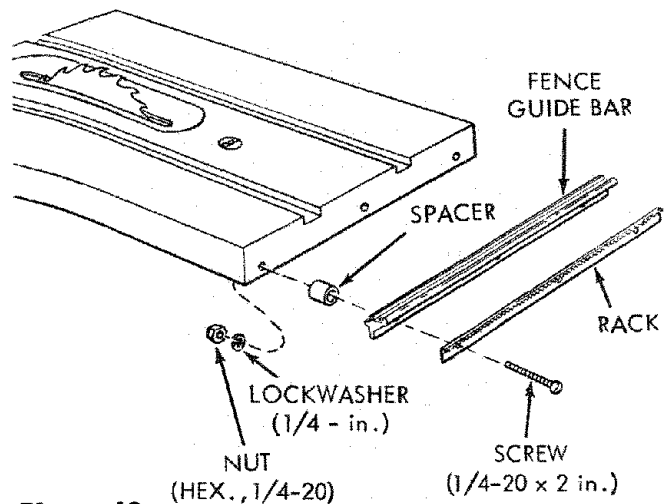

Figure 19
- (2) Shift the two trunnions by tapping them lightly until the two measurements described in the preceding instructions are equal. Tighten the trunnion screws and recheck measurements to make sure tightening screws did not alter the setting. Several trials may be required to produce an accurate setting.
- a. Position the table rack against lower edge of fence guide bar so that rack teeth are on upper edge of rack and pointing outward. Align the three holes in both parts. (See figures 19 and 20.)
- b. Insert one of the three 1/4-20 x 2-inch screws through holes at one end of rack and guide bar and place a guide bar spacer on the end of the screw. (See figure 19.) Insert the screw through the saw table and install a 1/4-inch lockwasher and 1/4-20 hex nut. Do not tighten the screw at this time.